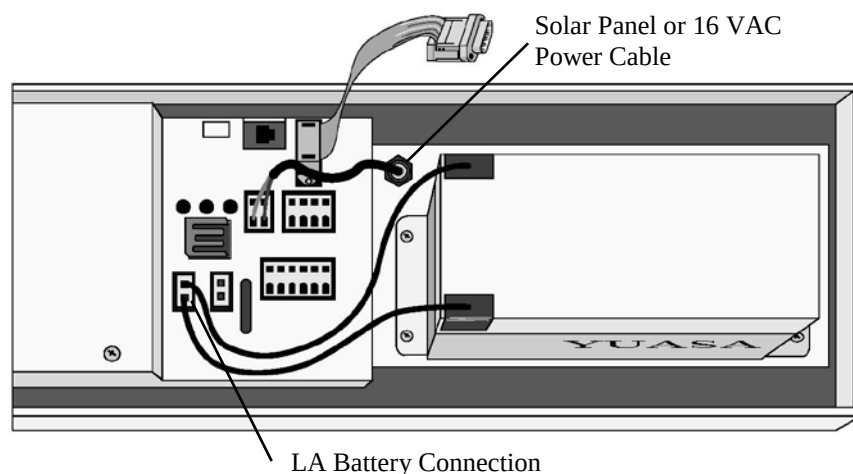

FIGURE 3-3. Rechargeable Power Mounting and Connections
- b) Sealed Rechargeable Battery Option: Install the kit as shown in FIGURE 3-3. An unregulated solar panel or 17 to 24 VAC must be used with the rechargeable battery at all times. In either case, power is routed through the Heyco fitting on the enclosure back and connected to the CHG ports by depressing connector levers. Polarity of the CHG connection does not matter. Install the rechargeable battery and plug the battery lead into the connector labeled "LA".